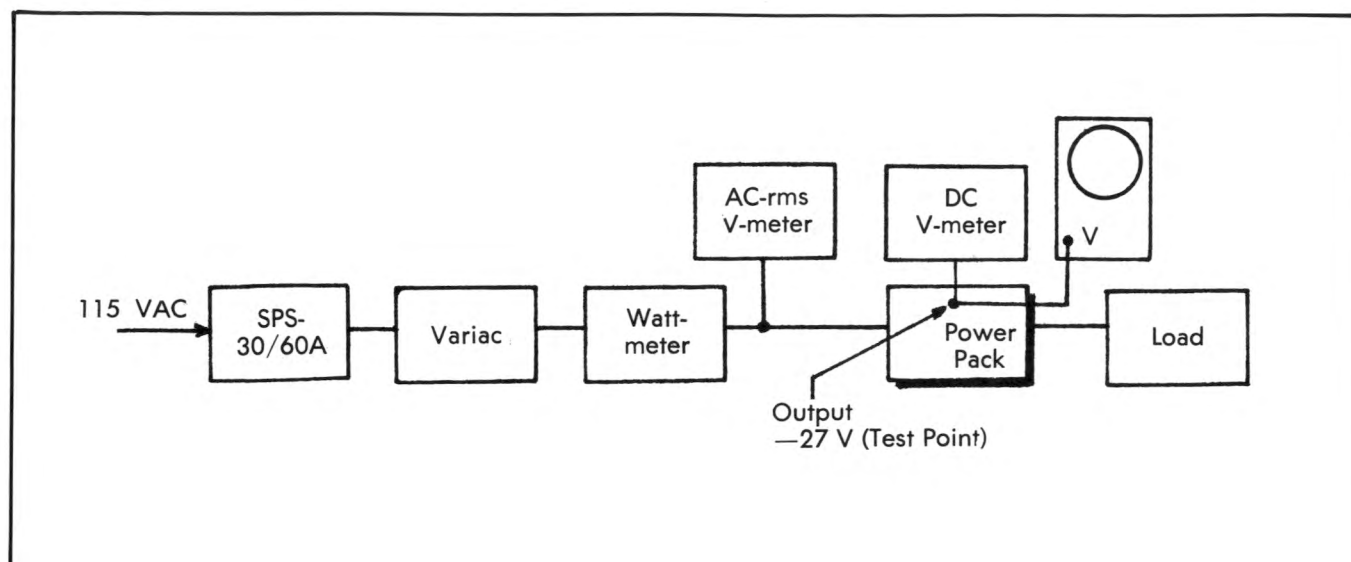

Fig. 6—Initial Test Set-Up
2. Connect the unit into the test set-up diagrammed in Fig. 6, but do not yet turn on the equipment.